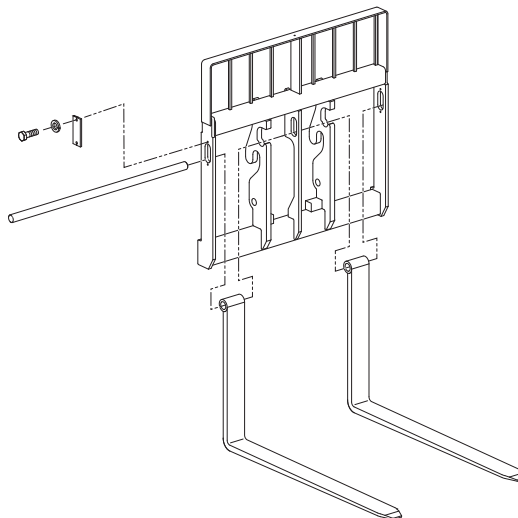

Figure 2-16 Changing Forks
3. Draw the bar out of the fork eye and carriage side plate, being careful that the fork doesn't fall over, causing possible injury (see Figure 2-16).